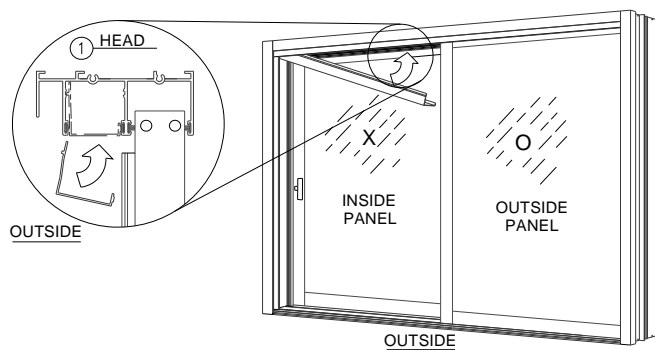

Figure 29:
5. Install head closer(s) into the head except where the closer interferes with sliding panel(s) (Figure 29).